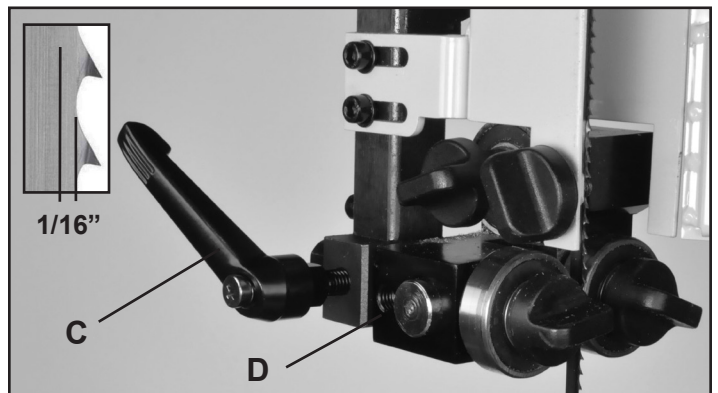

FIGURE 23
2. The guides should be approximately 1/16" behind the gullets of the saw blade. If they need to be moved, loosen the back Clamp Handle (#30E, Fig. 23, C) and move the Upper Guide Block (#48E, D) that holds the guides so that the guides are properly positioned behind the blade gullets. Re-tighten the handle when done. Fig. 23.